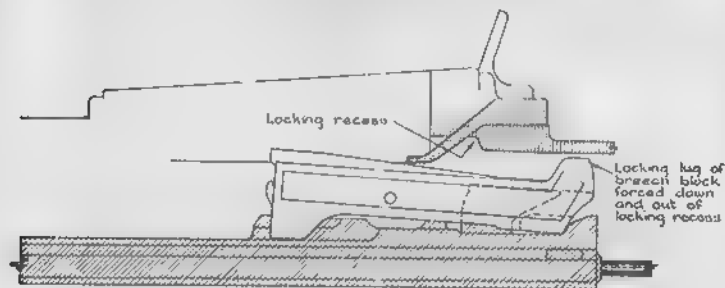

Fig 32.—The mechanism unlocked
7. As soon as the piston post starts to move back, the firing pin spring pulls the pin away from the base of the cartridge; the piston goes on back; the projection on the back of it catches the hollow end of the breech block, presses the back of it down, and brings the locking lug down out of the locking recess. All that takes long enough for gas pressure to drop in the chamber before the breech block can start to move back (see Fig 32).